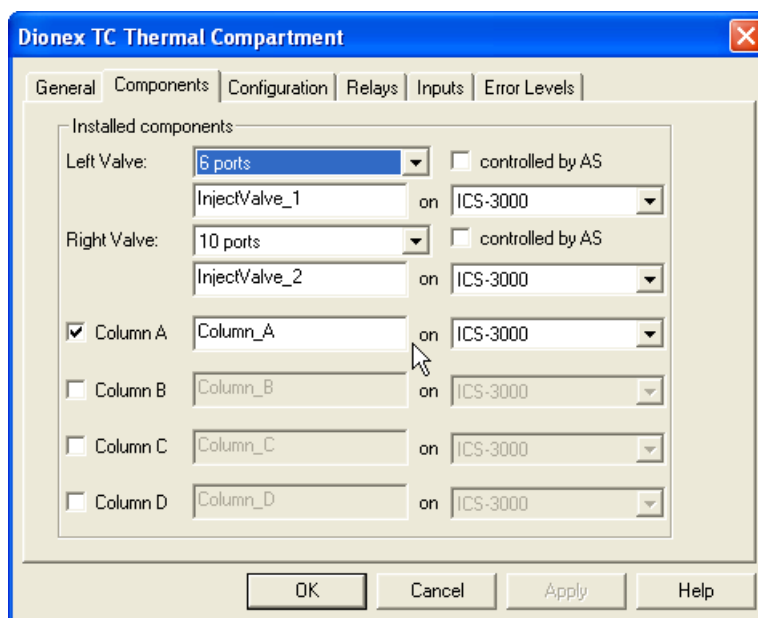

Figure 9-73. TC Properties Dialog Box: Components Tab Page
3. In the TC Properties dialog box, select the **Components** tab to display the **Components** tab page (see Figure 9-73).